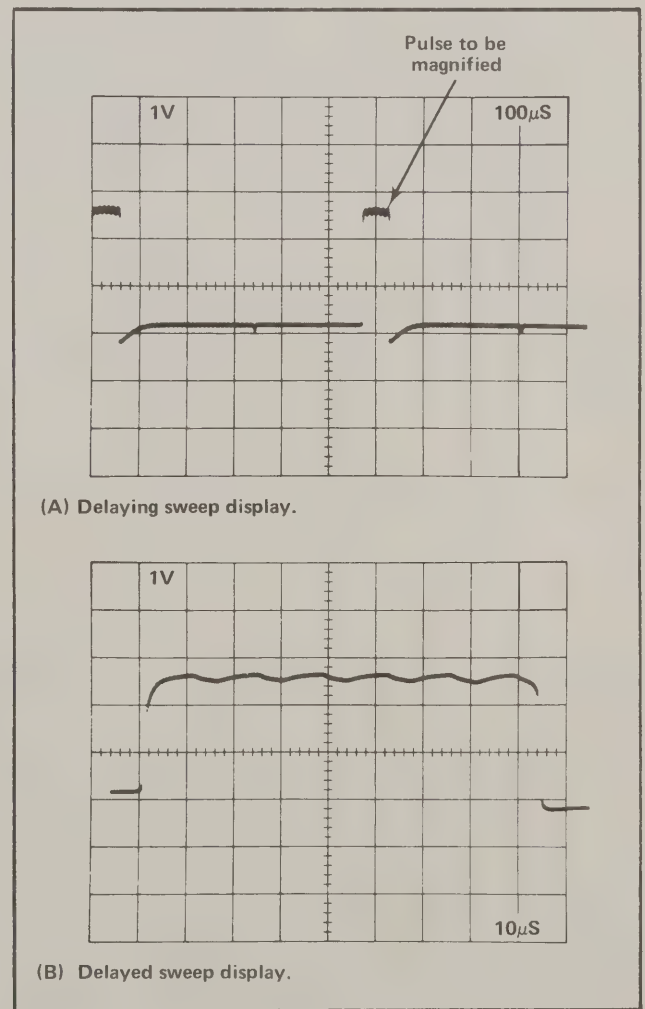

Fig. 1-16. Using delayed sweep for magnification.
**Example.** The apparent magnification of the display shown in Fig. 1-16 with a TIME/DIV OR DLY TIME setting of .1 ms and a DLY'D Time/Division switch setting of 10 microsecond is: